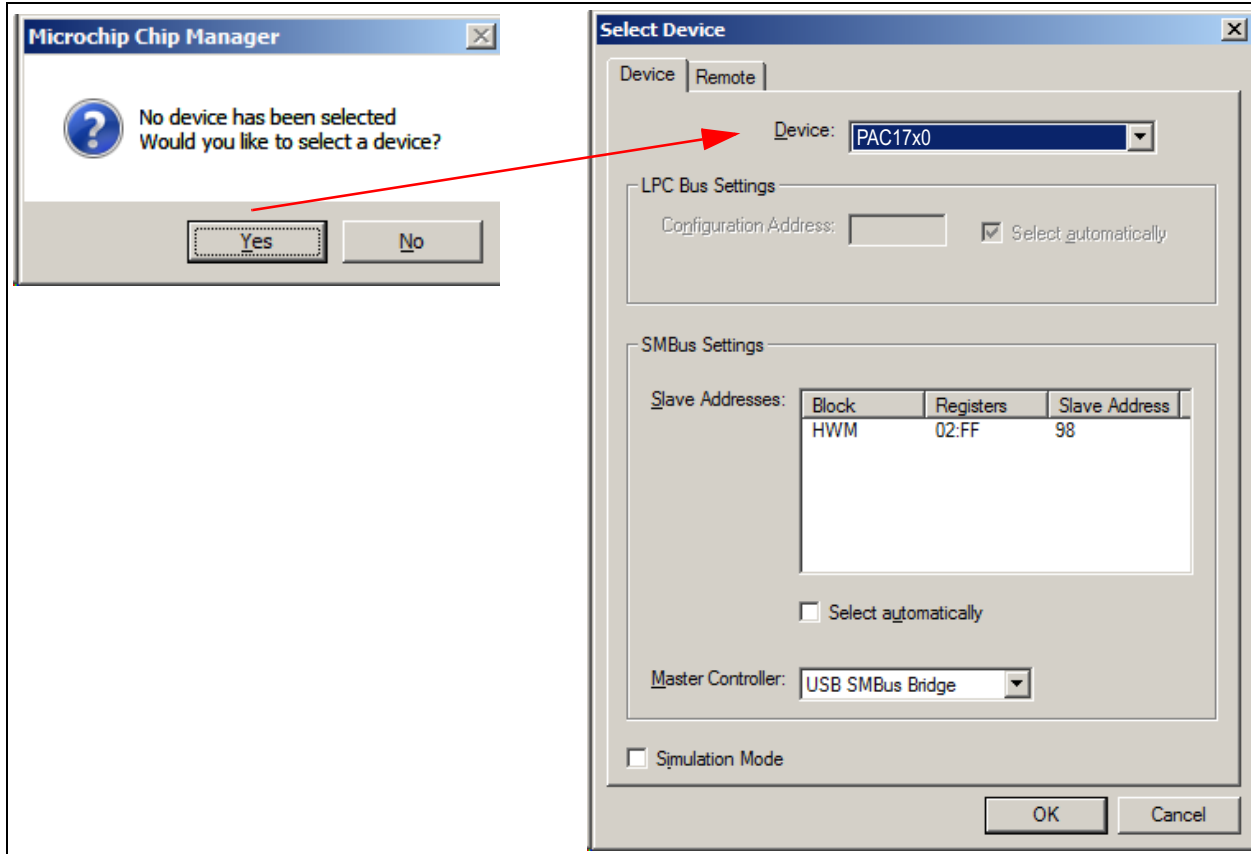

FIGURE 2-10: Select Device Window.
11. If a message stating that no device has been selected appears, click **Yes** to select a device. Alternatively, go to the Chip Manager's main menu, select Options > Select Device. In either case, the Select Microchip Device window displays, as shown in Figure 2-10.